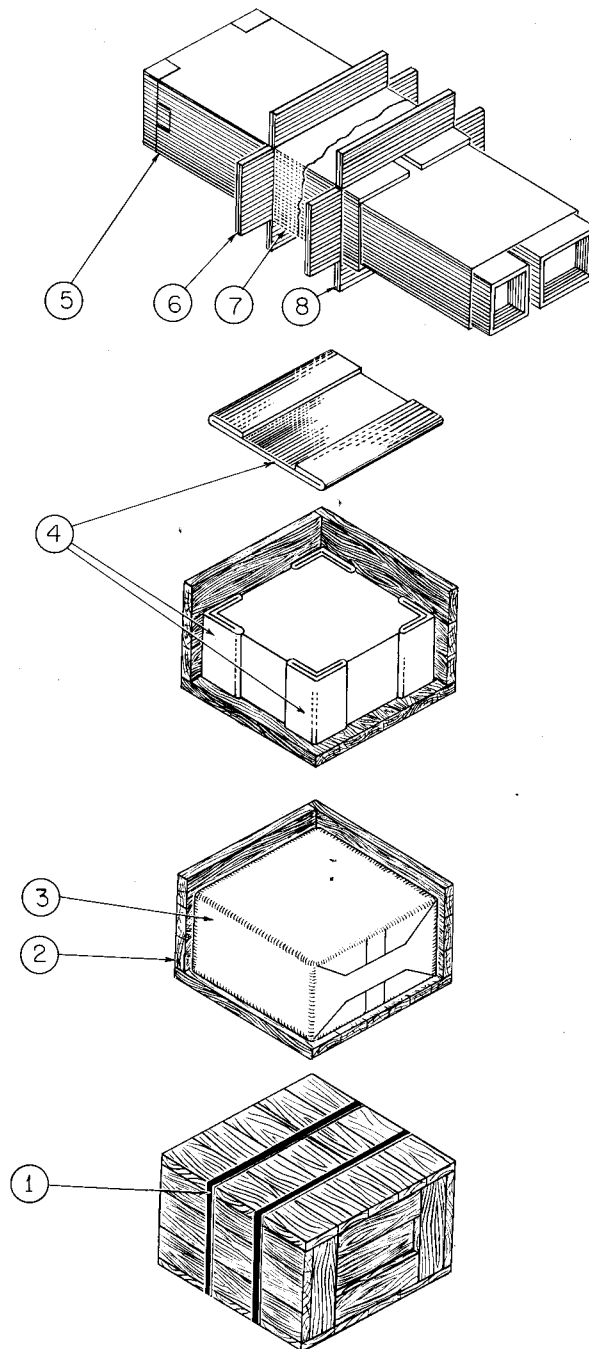

Figure 3-1. Unpacking
Set the crate containing the equipment in a position as shown in figure 3-1, step (1) and follow the procedure given below and illustrated in figure 3-1:
(1) Clip the two metal bands that bind the wooden crate.
(2) Pull out nails and remove the top cover and two sides.
(3) Tear open the waterproof paper wrapping.
(4) Remove the four corner supports and top corrugated pad.
(5) Remove the corrugated box containing the receiver from the wooden crate.
(6) Open the four flaps of the corrugated box and remove the corrugated container.
(7) Tear open the moistureproof paper barrier.
(8) Open the four flaps on the corrugated container and carefully remove the items of Radio Receiving Sets AN/SRR-11, -12, or -13.
(9) Check the items removed against those listed in Table 1-1.